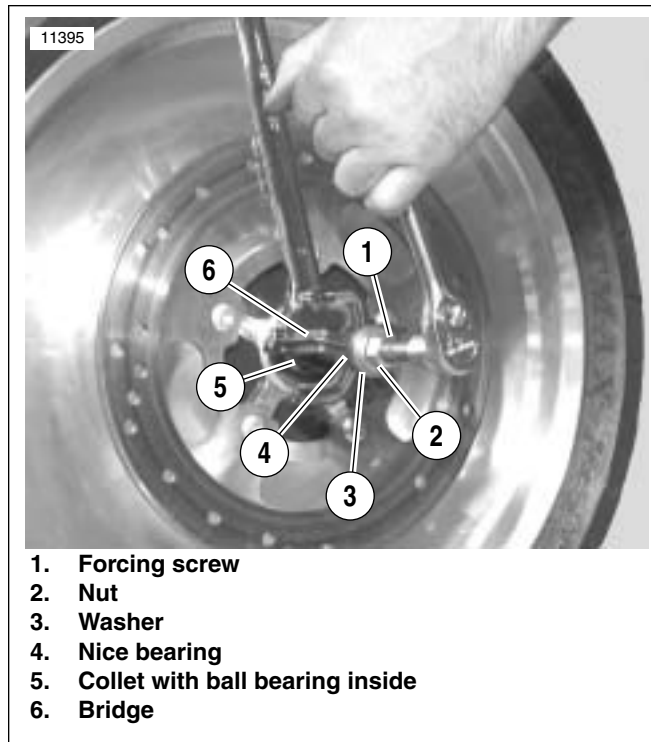
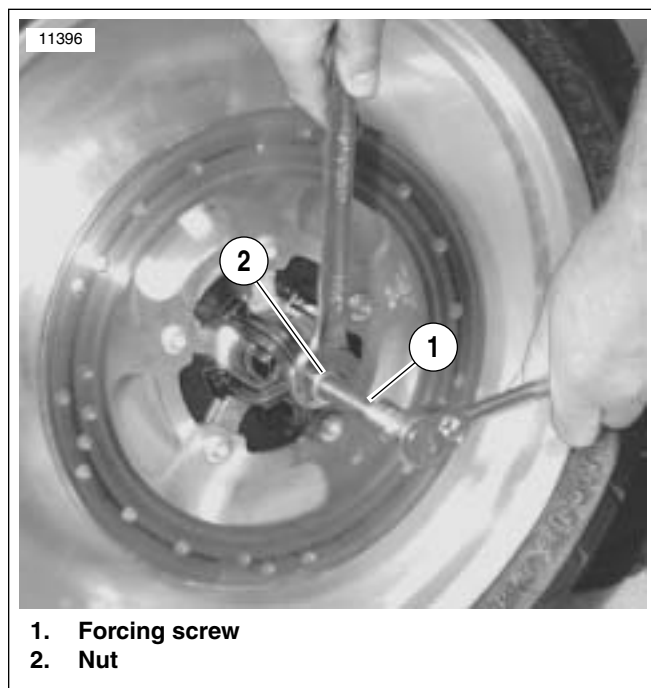

Figure 2-87. Gripping Bearing (typical)
Figure 2-88. Removing Bearing (typical)
2. See Figure 2-87. Obtain WHEEL BEARING INSTALLER/REMOVER (Part No. HD-44060) and assemble tools required for bearing removal.
- a. Sparingly apply graphite lubricant to threads of forcing screw (1) to prolong service life and ensure smooth operation.
- b. Install nut (2), washer (3) and Nice bearing (4) on screw. Insert assembly through hole in bridge (6).
- c. Drop ball bearing inside collet (5). Fasten collet and ball bearing to forcing screw (1).
3. Hold end of forcing screw (1) and turn collet (5) to expand edges of collet.
4. See Figure 2-88. When expanded collet has gripped bearing edges, hold end of forcing screw (1) and turn nut (2) to remove bearing from wheel.